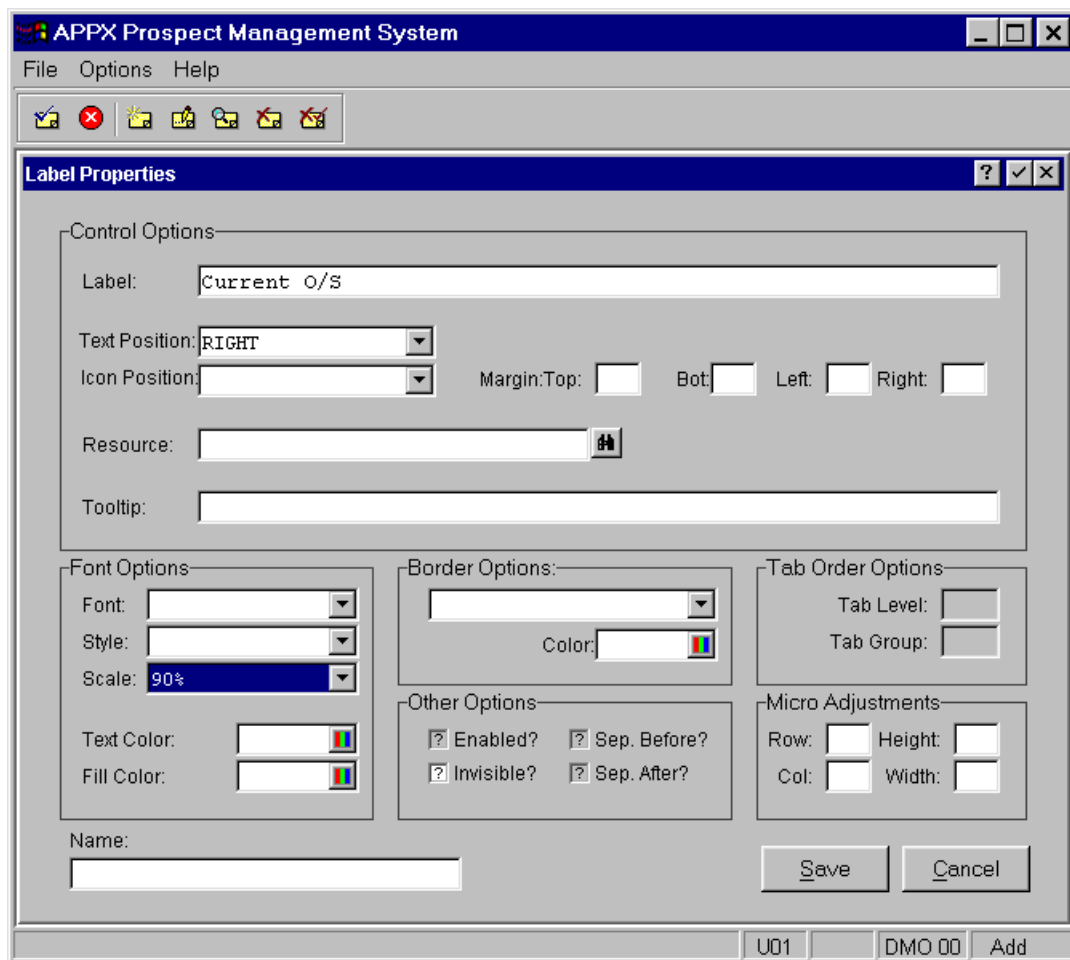

Figure E3.10 – ‘Current O/S’ Label Properties
- First, you need to add a Label for each of the three data fields that are to be placed on the image. Label widgets are used to add static or non-modifiable text to the screen. First, click on the Label tool () on the toolbar. Then, position the mouse pointer to the point on the screen image where you would like to place the top left corner of the label, click, and, holding the left mouse button down, drag out a rectangle representing the approximate size you would like for the label. Release the mouse button and the Label Properties screen will pop up (*Figure E3.10 below*).